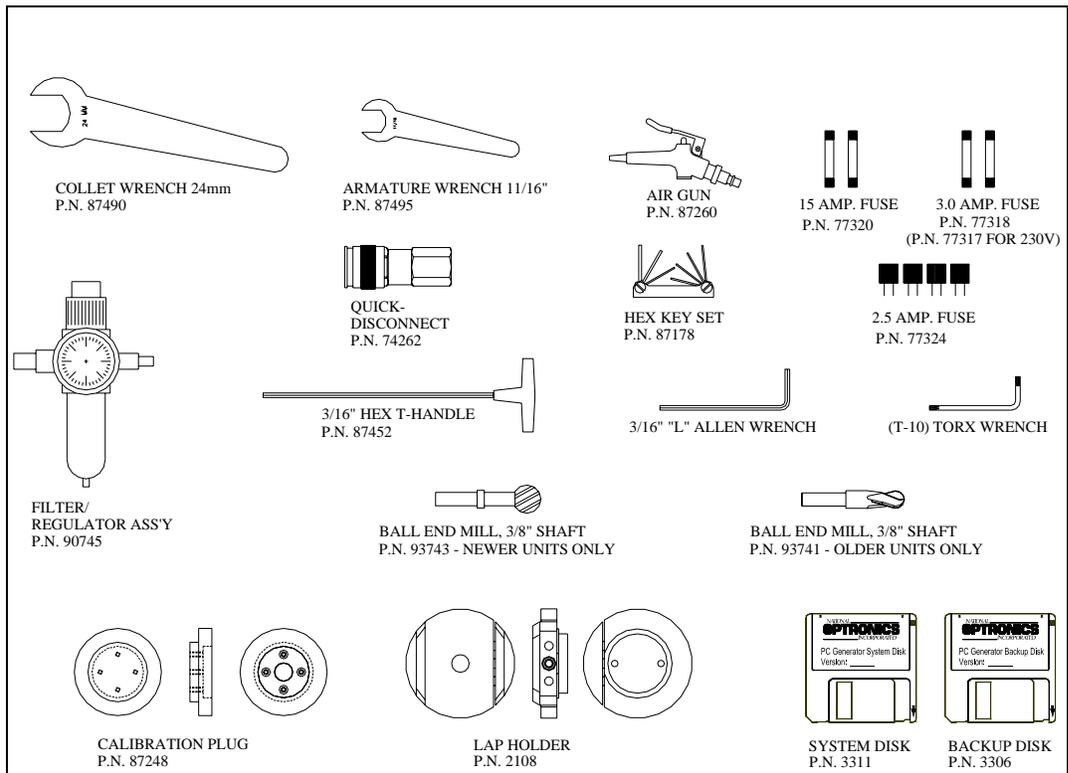

Figure 1 - Accessory Kit
These procedures should be followed in sequence, as the proper completion of a given step may depend on the one previous to it. Tools are provided in the accessory kit (See Figure 1) to aid in both the installation and subsequent operation. The 2G Toric Generator is optionally shipped with a cabinet which is custom designed for the application. The laboratory can either: (1) Use the custom cabinet, or (2) Mount the generator on a standard workbench.